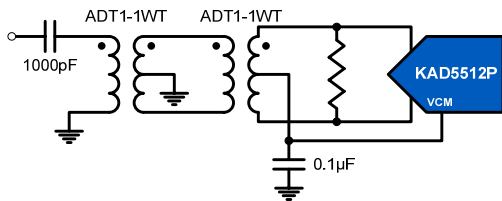

Figure 27. Transformer Input for General Purpose Applications
Best performance is obtained when the analog inputs are driven differentially. The common-mode output voltage, VCM, should be used to properly bias the inputs as shown in Figures 27 through 29.
An RF transformer will give the best noise and distortion performance for wideband and/or high intermediate frequency (IF) inputs. Two different transformer input schemes are shown in Figures 27 and 28.